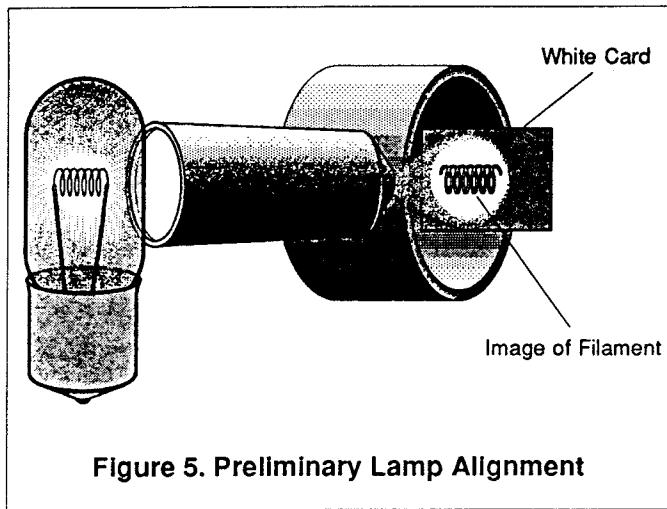

Figure 5. Preliminary Lamp Alignment
- (A) Clean the soundhead optics thoroughly. If the film guide rollers are worn, replace them. Excessive side to side weave will cause insurmountable problems for the SVA stereo circuitry and must be corrected prior to installation.
- (B) If the exciter lamp is old or blackened inside, replace it. Make sure the lamp is operating at a voltage greater than 60% of its rating.
- (C) With the mono solar cell in the projector, run the SMPTE BUZZ TRACK film and align the guide rollers for minimum output.
- (D) For stereo installations, remove the mono solar cell and place a white card about an inch away from the sound lens. The image of the exciter lamp filament should look like *Figure 5*. If necessary, raise or lower the lamp and move it in and out until the filament is centered in the spot of light. This will insure that the slit is evenly illuminated, thereby producing the least distortion in playback.